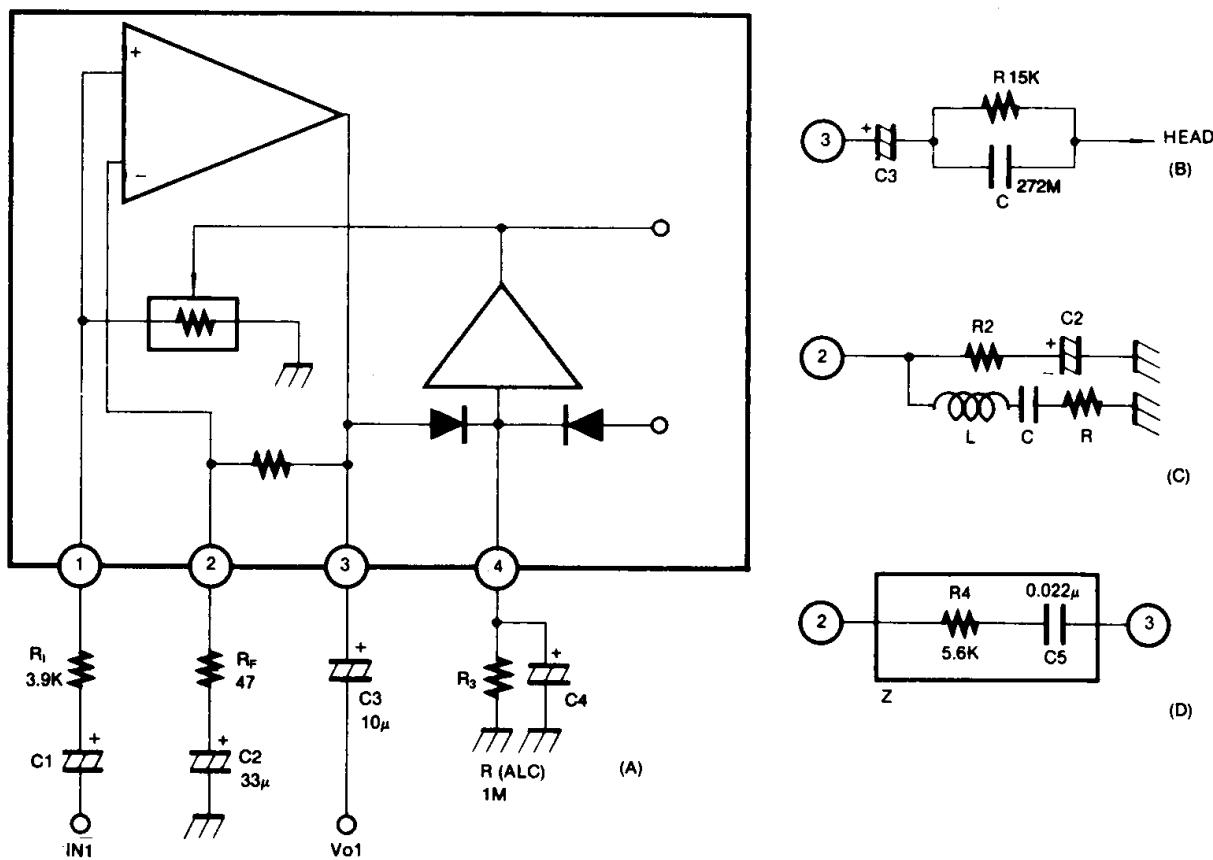

Fig. 3
2. Recording Amplifier (Figure 3 (A))
The recording amplifier requires a compensation circuit to correct loss at high frequencies. The compensation circuit may be either CR or LC resonance. The frequency response of the resonance circuit is fixed at $1 \sim 4\text{KHz}$. An example using a CR is shown in Figure 3 (B), and one using LC resonance is shown in Figure 3 (C).
As the Figure 3, because the R_F range is $47 \sim 100$ ohm normally at the set application, the matching between R_3 and C_4 occurs.